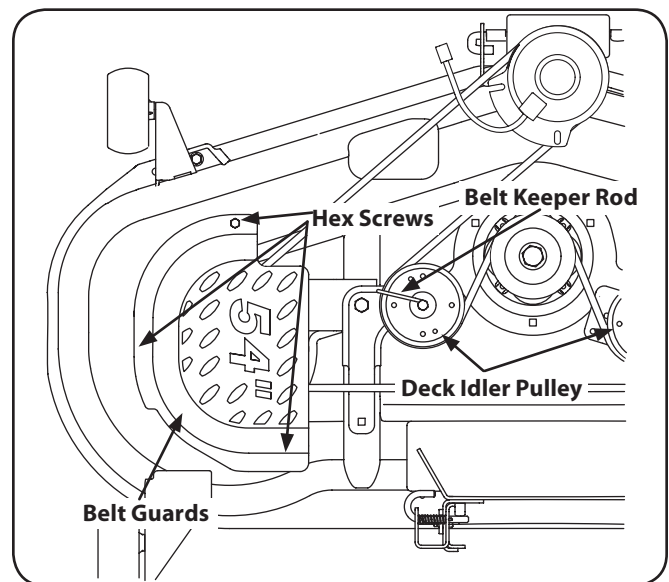

Figure 7-8
2. Remove the belt guards by removing the hex screws that fasten them to the deck. See Fig. 7-8.
3. Loosen, but do not remove the belt keeper rod on the pulley located near the back of the deck. See Fig. 7-8.